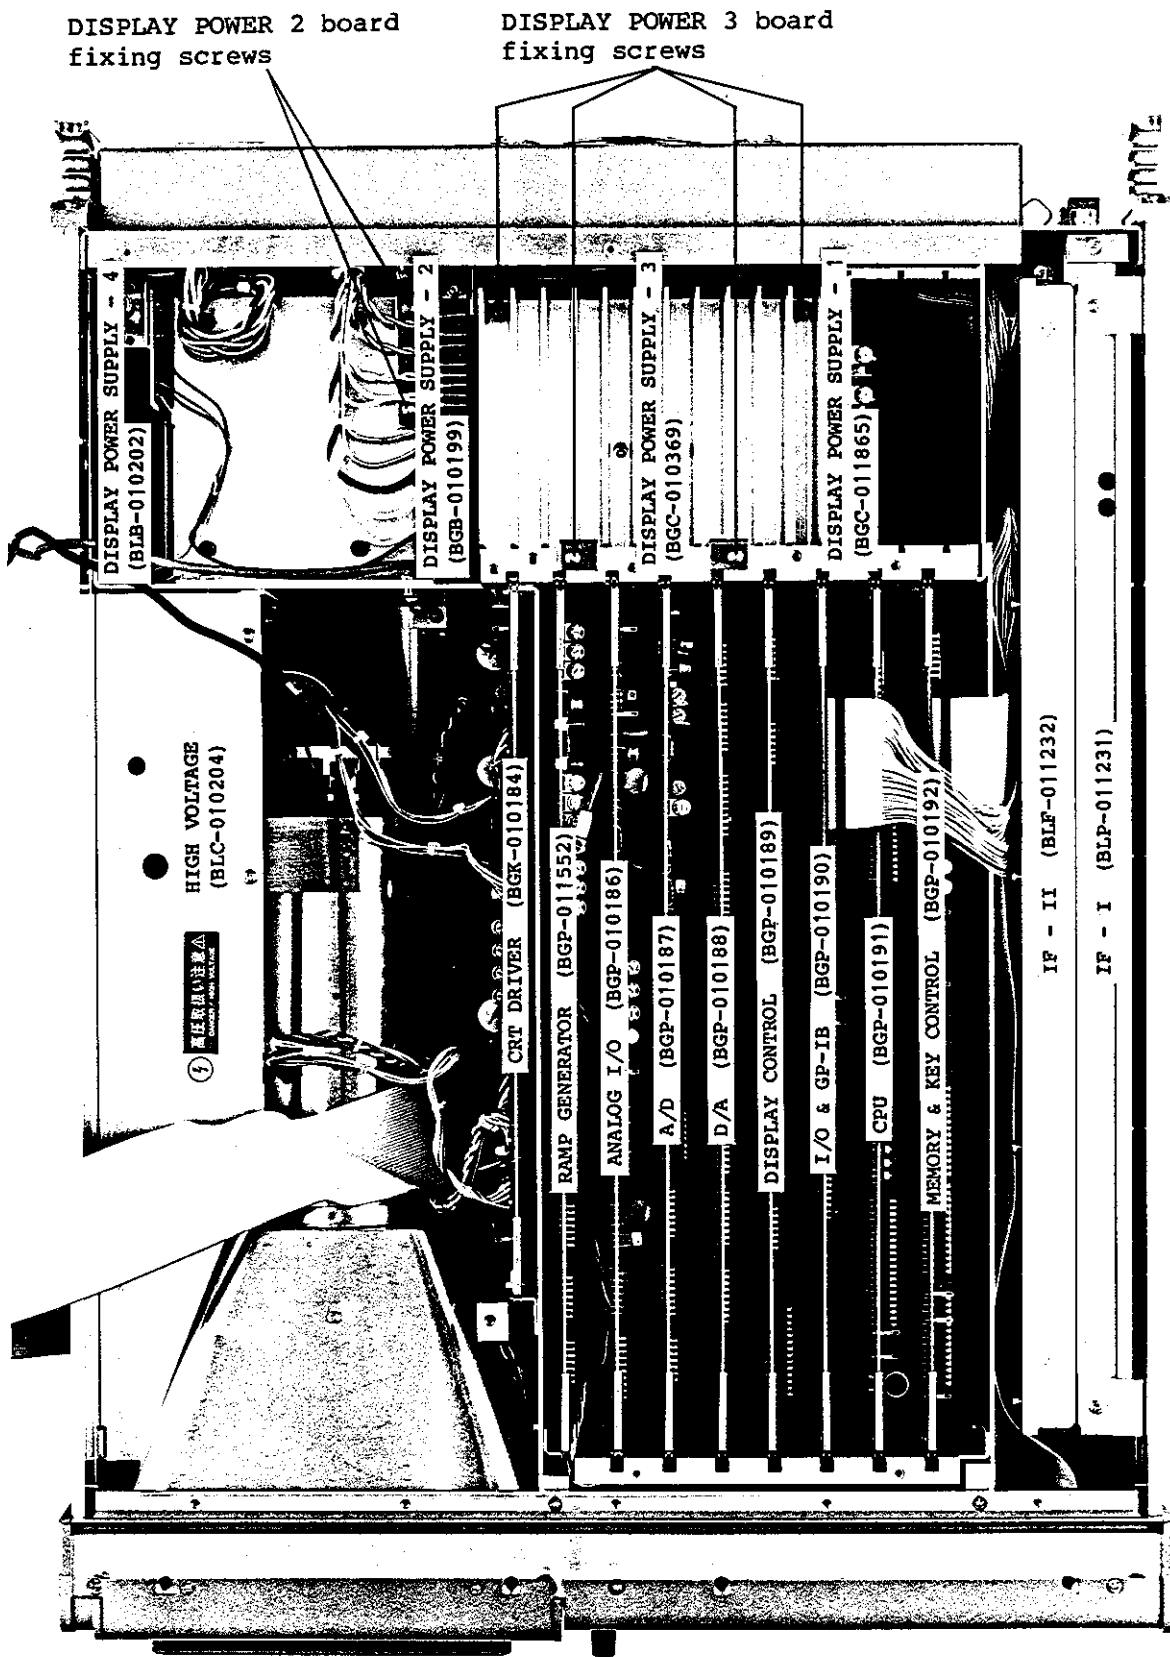

Fig. 13-2 Display section top view (2)
Remove board (Figure 13-2) and install extender boards if necessary.
Remove four fixing screws (Figure 13-2). Remove board. Install extender boards if necessary.
- (3) Display power 2 (BGB-010199)
Remove display power 3 board described in item (2). Release two screws fixing the connector (Figure 13-2). Remove connector. Remove board and check parts.
- (4) Display power 4 (BLB-010202)
Remove board (Figure 13-2) and install needed extender boards if necessary. Connect respective connectors by using extension cables.
(7) MEP-401 (IF block) (Figures 13-2, 3, and 5)